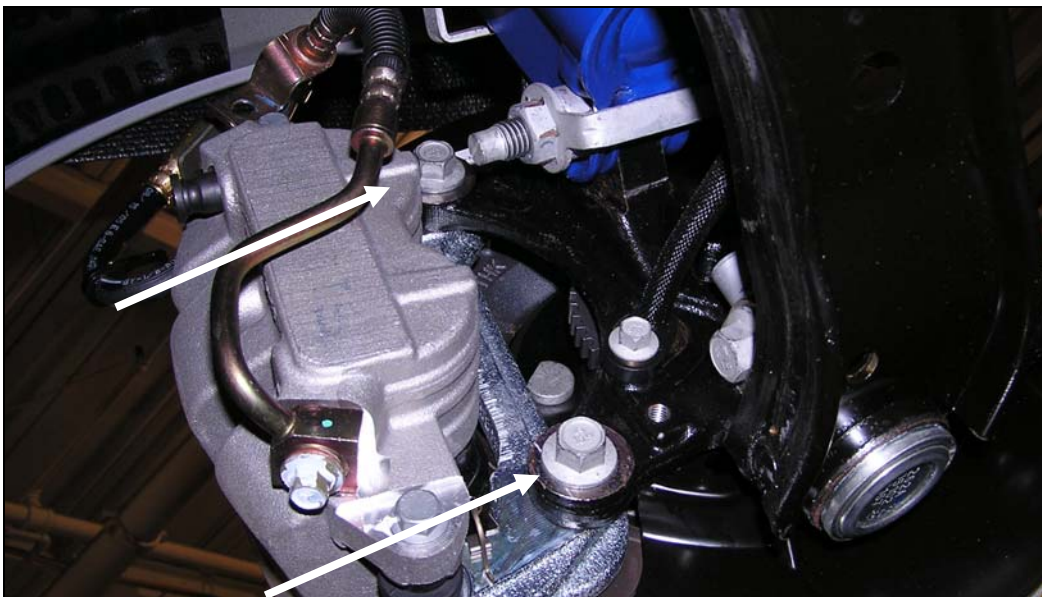

Figure 5
1. Remove the two stock caliper bolts, using a 15mm wrench or socket. Discard these bolts. Refer to Figure 5.